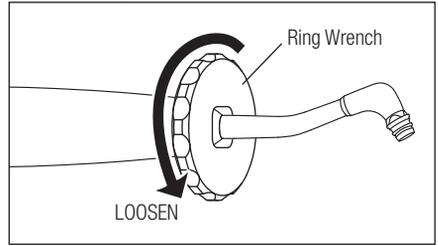

Fig. 14
- 3) Insert the Nozzle into the Ring Wrench and loosen the Nozzle. Remove the Nozzle from the Handpiece. (Fig. 14)